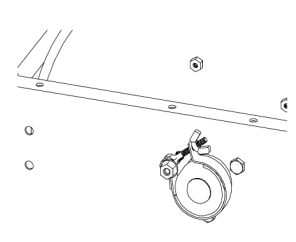

Fig 9.0 600/800 Series Tension Brake
- 4.) On 600 and 800 Series, a tension brake is provided. See figure 9.0 on next page. Adjust clockwise to add tension and counter-clockwise to decrease tension. A slight drag should exist.